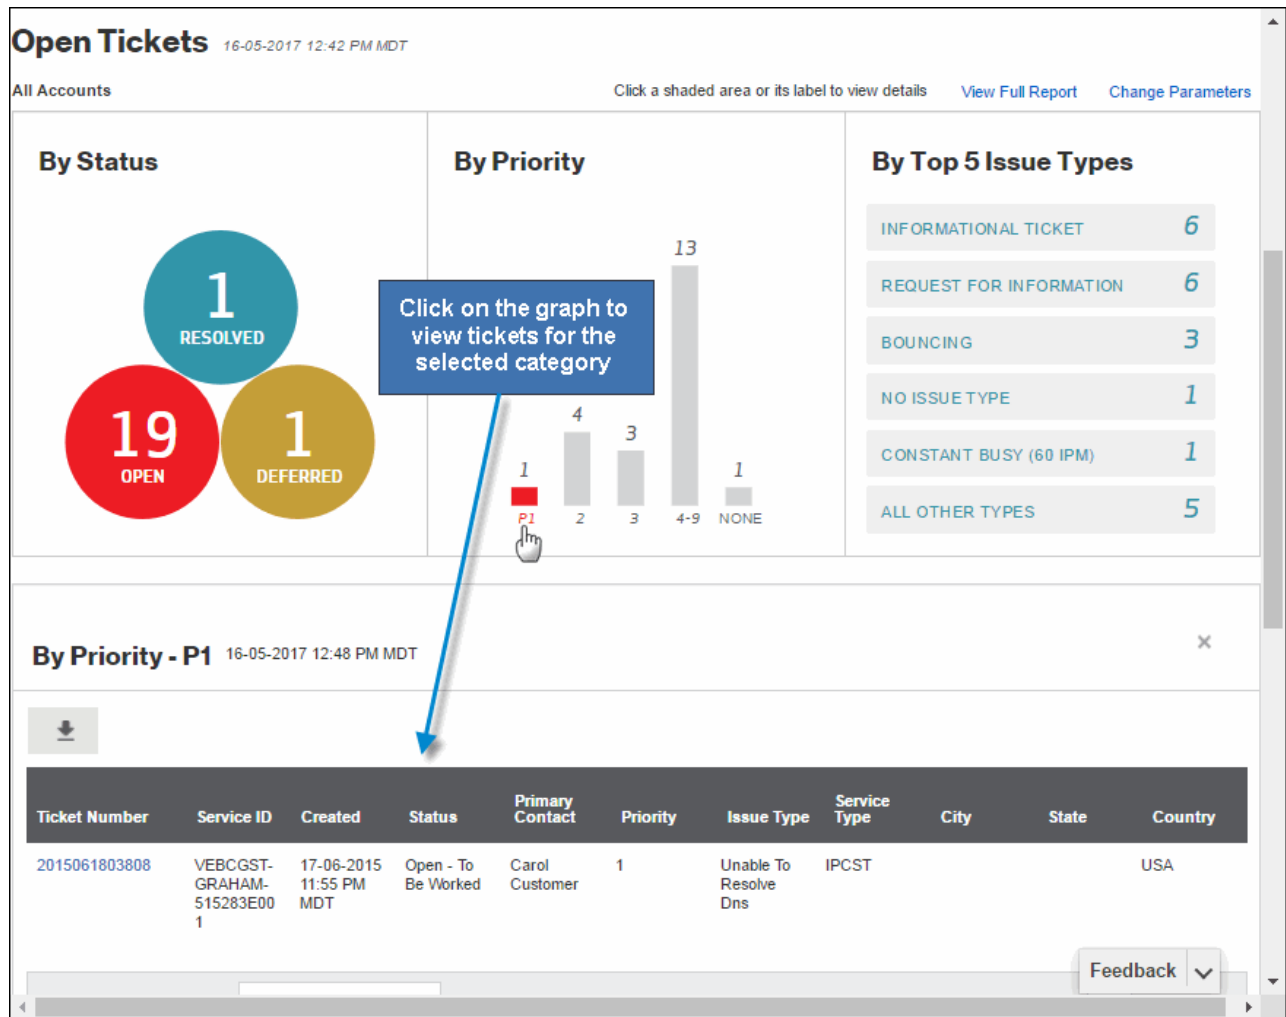

Figure 44 Reports
4. Click on a part of any graph to view tickets for that category (see Figure 44).